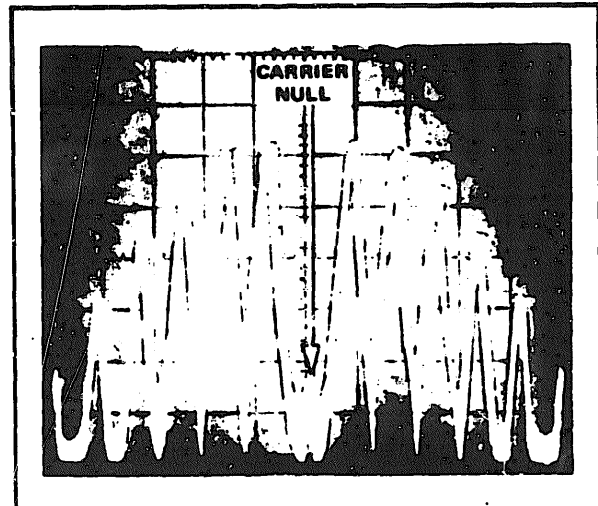

Figure 4-5 First Carrier Null
2. Set the BB FREQUENCY (9) to 83 Δ (Opt. 92 Δ).
3. Connect the IF OUTPUT (G) to the Spectrum Analyzer RF input via the 75Ω/50Ω matching pad.
5. Set the DEVIATION (8) to 141kHz (Opt. 157kHz) and obtain a first carrier zero, see Figure 4-5.